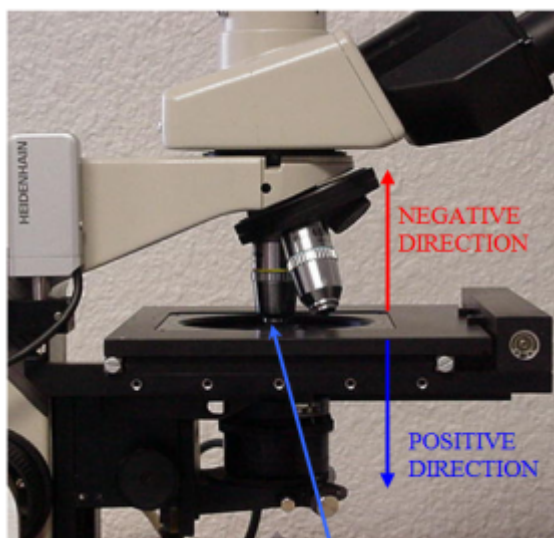

Fig 3: Set objective farther than 200 microns from the sample, then set the focus drive's position to ZERO.
1. Focus the sample manually and then press the ZERO button on the controller. When correctly configured, the controller will never auto-focus to a position greater than 200 μm in the negative direction from the 0000 positioned. (This safety feature may be disabled by the AFLIM (or AL) command) By zeroing the controller at a typical focus location, you should have a reasonable range for the auto-focus to operate yet still protect an objective from crashing into the sample (Fig 3). You can also use the HERE Z=0 command to zero the Z-axis position with software, if Z is the focus axis.